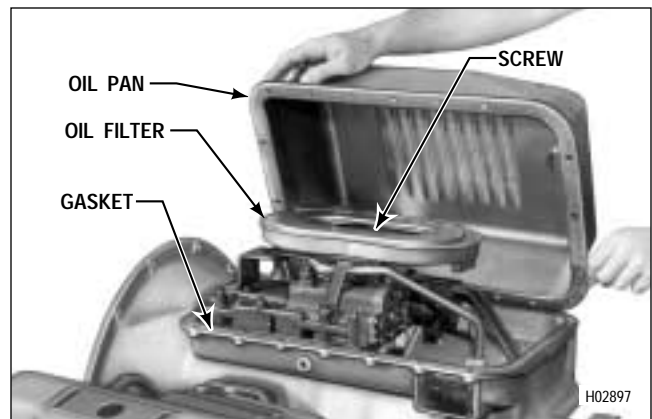

Figure 5-6. Removing Oil Pan
(1) Remove the twenty-one screws that retain the oil pan.
(2) Remove the oil pan (Figure 5-6). Remove the pan gasket.
(1) Remove washer-head screw 23 or 35 (Foldout 12,B), or bolt 42 and washer 43 that retains the filter (Figure 5-6). Remove the filter.